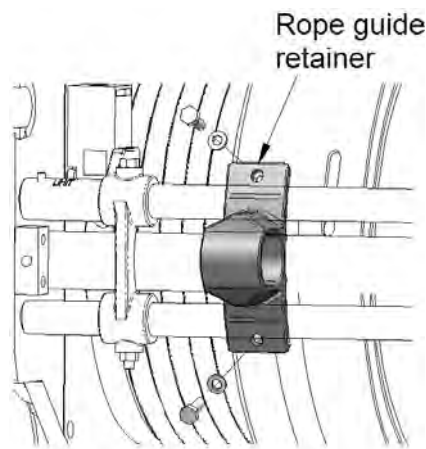

Figure 63 – Fitting Rope Guide Retainer – Standard Environments Rv-1 (see hoist nameplate for revision)
- FOR STANDARD ENVIRONMENT ROPE GUIDES type Rv-1:- Fit the rope guide retainer to the face of the rope guide. Tighten the screws to 8Nm (see Figure 63).